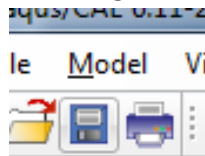

Figure 44. Save File
- Save the file by doing either **File > Save** or clicking the disk icon (Figure 44).